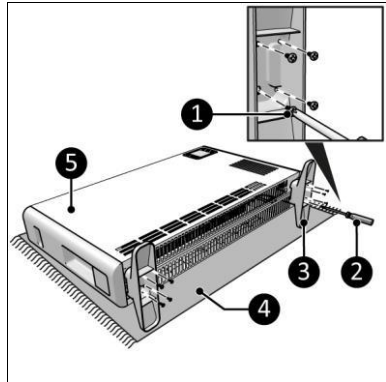

Figure 8
1. Lay the device down on a steady soft surface (Figure 8, pos. 4).
2. Place the pedestals (Figure 8, pos. 3) on both sides of the main body (Figure 8, pos. 5).
3. Screw and tighten the pedestals with the small screws (Figure 8, pos. 1) using a Phillips screwdriver (Figure 8, pos. 2).